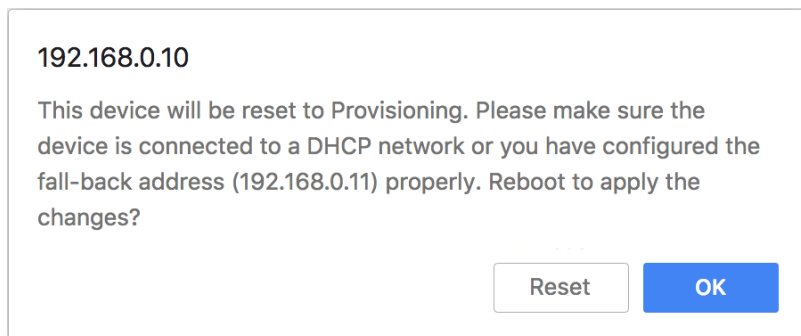

Figure 18. Unit reboot dialog (typical)
- The web browser will show the unit reboot dialog (Figure 18 \(page 56\)).